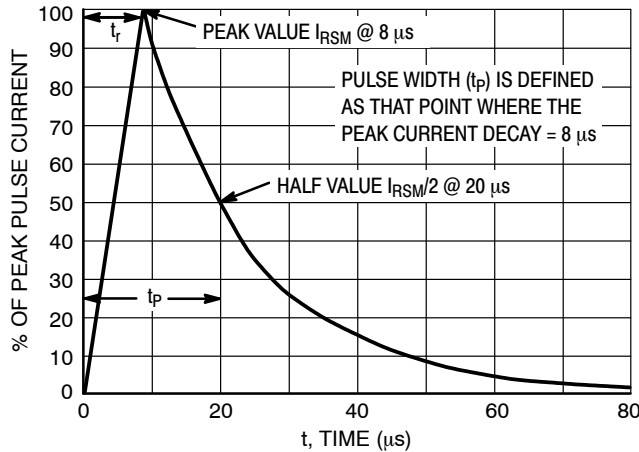

Figure 10. 8 x 20 μs Pulse Waveform
- Non-repetitive current pulse at $T_A = 25^\circ\text{C}$, per IEC61000-4-5 waveform, See Figure 10.